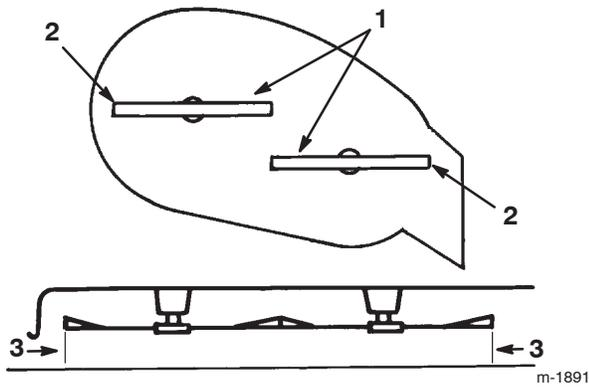

Figure 48
5. Carefully rotate the blades side to side (Fig. 48).
6. Measure between the outside cutting edges and the flat surface (Fig. 48). If both measurements are not within 3/16 in. (5 mm), adjust them; refer to steps 7 through 10.